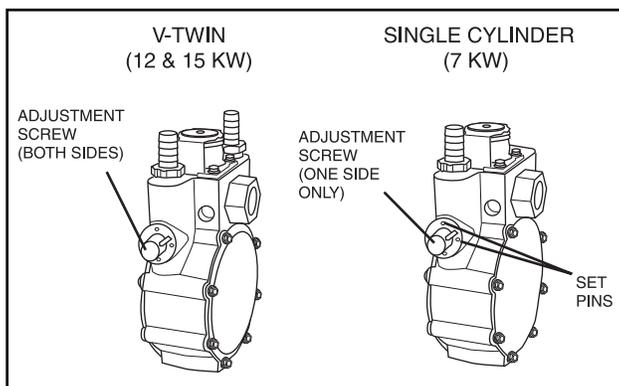

Figure 30
**Note: Only limited adjustment is available between the set pins on 7 kW fuel regulators. Under no circumstance should any of the pins be removed (see Figures 30 & 31).**